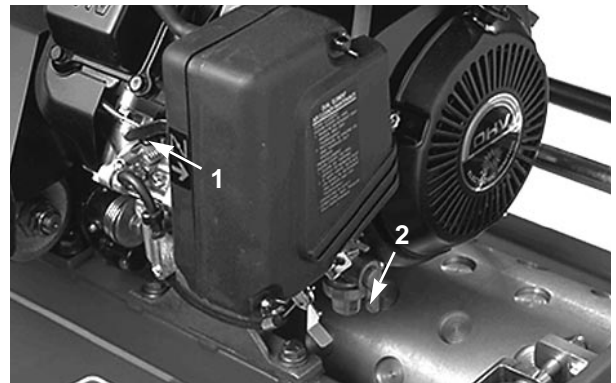

Fig. 15
Choke Lever (Fig. 15)—Located on the left front of the engine. The lever has two positions: RUN and CHOKE. Move the lever to CHOKE when starting a cold engine. After the engine starts, move the lever to RUN.
Fuel Shut-off Valve (Fig. 15)—Located on the left front of the engine. The valve has two positions: CLOSED and OPEN. Move the lever to CLOSED when storing or transporting the machine. Move the valve to OPEN before starting the engine.
2. Open the fuel shut-off valve on the engine (Fig. 15).
5. Move the choke lever (Fig. 15) to the half-open position when starting a cold engine. The choke may not be required when starting a warm engine.